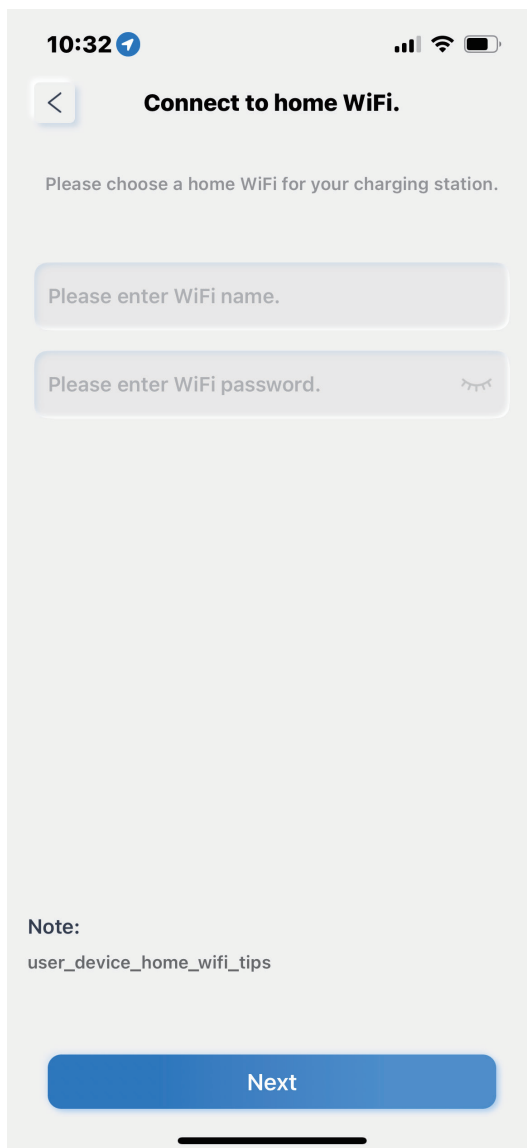

Fig.6.1.7
7. Tap the Wi-Fi Setting, enter the Wi-Fi name and password to set up the connection. (See Figure 6.1.7)